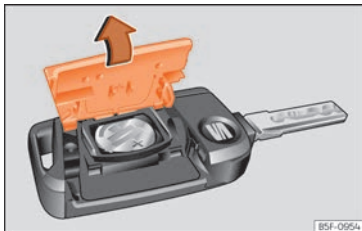

Fig. 119 Vehicle key: opening the battery compartment.
- Remove the cover from the back of the vehicle key »» Fig. 119 in the direction of the arrow »» ⚠.
- Fit the cover as shown »» Fig. 119, pressing it onto the vehicle key casing in the opposite direction to that shown by the arrow until it clicks into place.